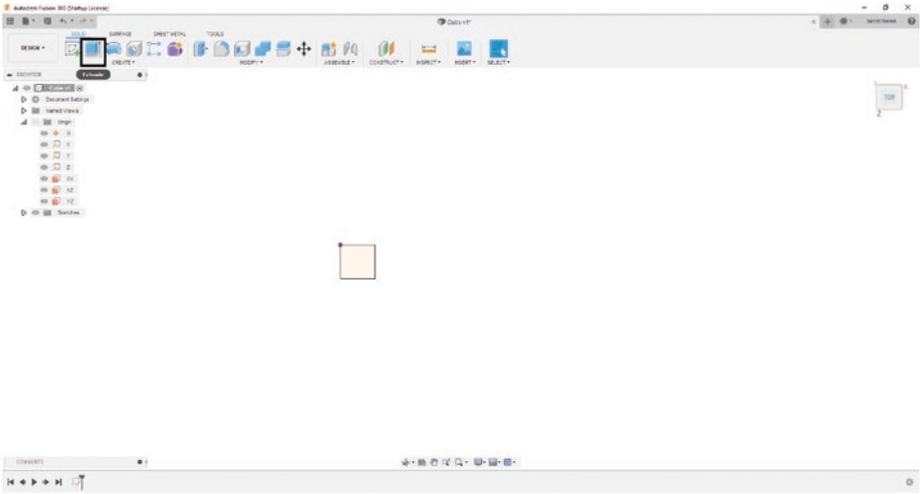

Figure 3-49. Select the Extrude function
1. Select the “Extrude” function from the “SOLID” tab. See Figure 3-49.